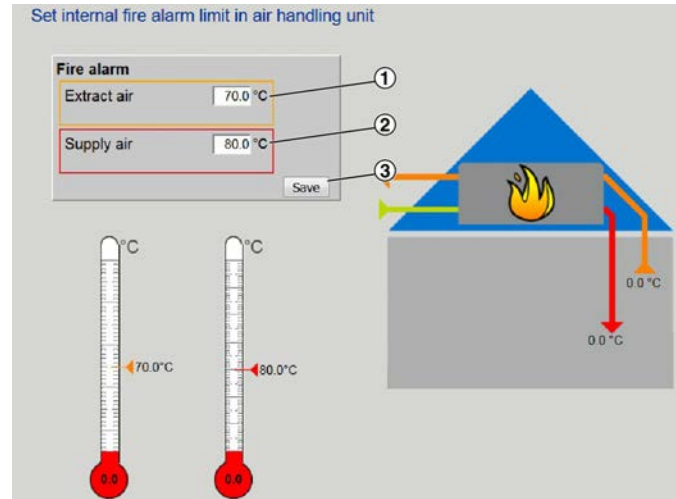

Fig. 49: Setting temperature limits for a fire alarm
2. ▶ Enter the extract air temperature limit (Fig. 49/1).
3. ▶ Enter the supply air temperature limit (Fig. 49/2).
4. ▶ Click on 'Save' (Fig. 49/3).